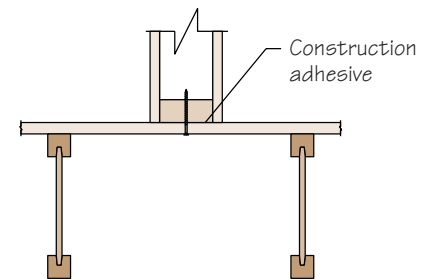

Figure 19
- Screw from below (Figure 19).